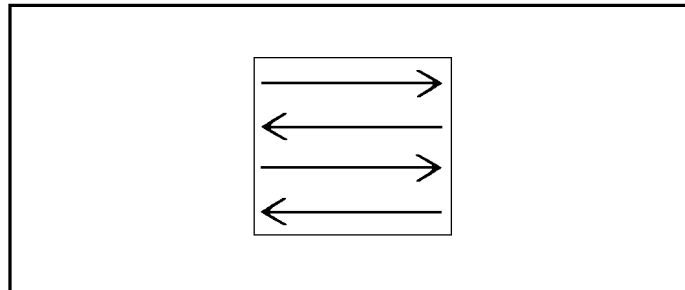

Figure 3-2
4. Scan the slide to visualize the blood cells. Use the course and fine focus adjustments. (See Figure 3-2 for the scanning pattern).